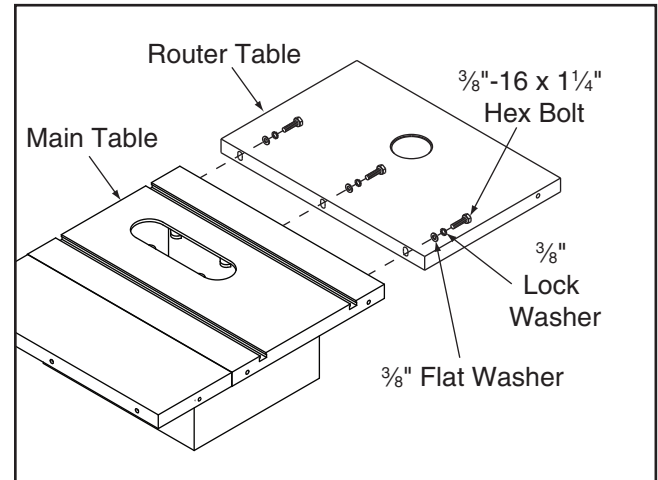

Figure 5. Example of mounting router table to table saw.
3. With the help of another person to hold the router table, align the mounting holes in both tables and secure them together with the (3) $\frac{3}{8}$ "-16 x $1\frac{1}{4}$ " bolts, (3) $\frac{3}{8}$ " lock washers, and (3) $\frac{3}{8}$ " flat washers, as shown in **Figure 5**. Finger tighten.